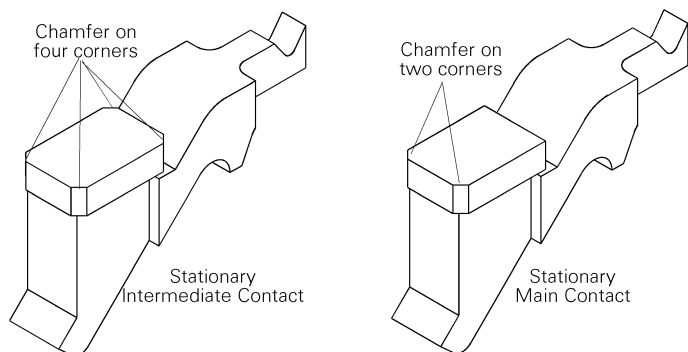

Figure 6-7. Stationary main and intermediate contact styles.
- c. Insert each replacement main and intermediate contact and secure with its contact spring. Note that main and intermediate contacts are differentiated by the number of chamfers on the corners of the contact surfaces, as illustrated in Figure 6-7. It is important that this distinction be observed when replacing the contacts.